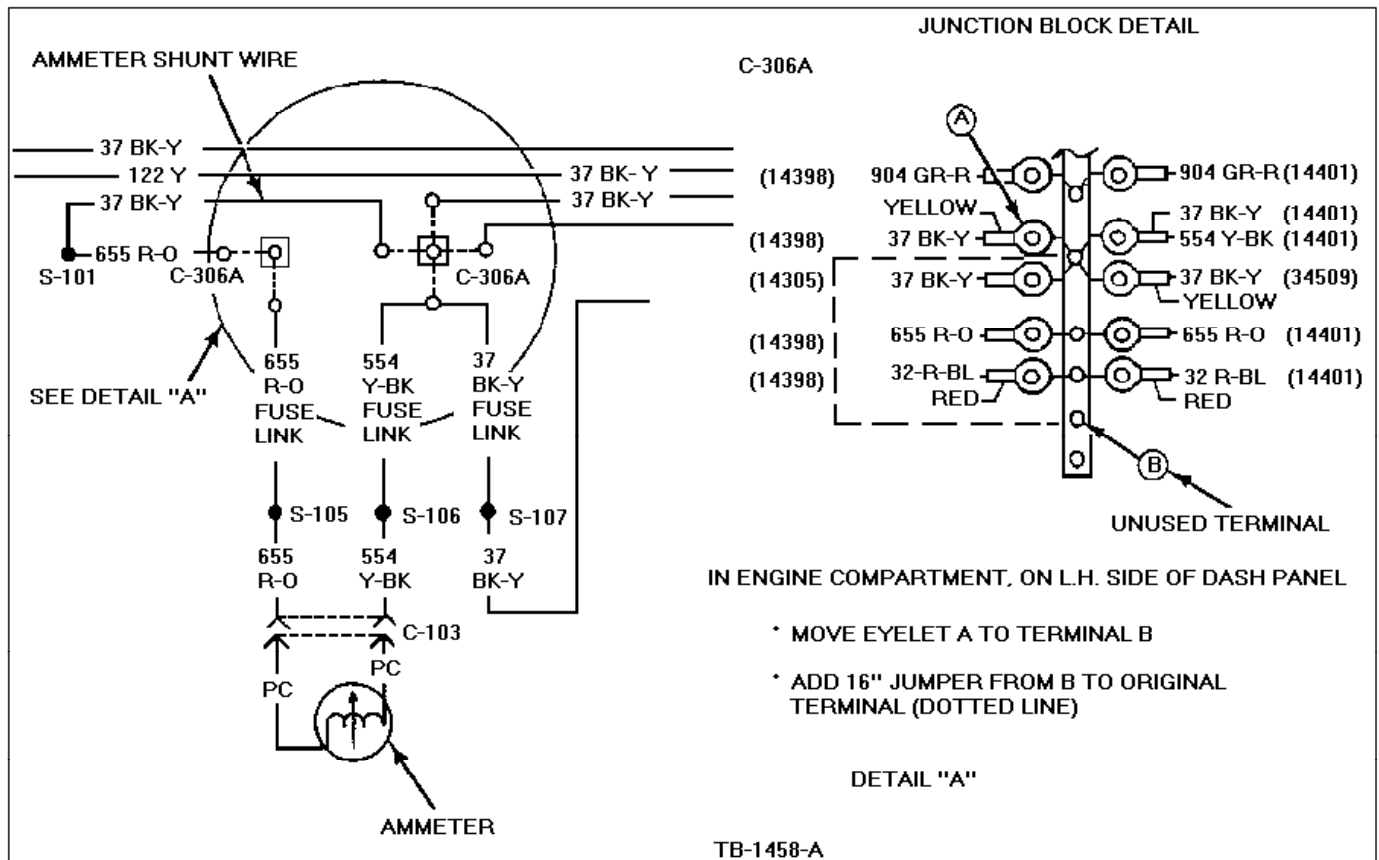

Figure 1 - Article 90-3-15
2. Disconnect the ammeter shunt wire at the junction block. It is the yellow wire with the yellow terminal in the 14398 wiring harness, Figure 1.
- a. Move the wiring eyelet to the nearest blank terminal, Figure 1.